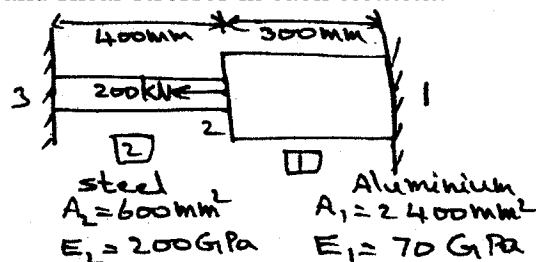

Fig.Q4
- a. A stepped bar is shown in Fig.Q4. Determine: